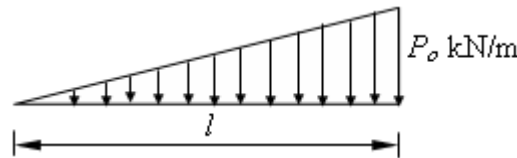

Figure 4:
4. (a) For the uniformly varying load acting on the beam element shown in figure 4 estimate the equivalent nodal load vector.